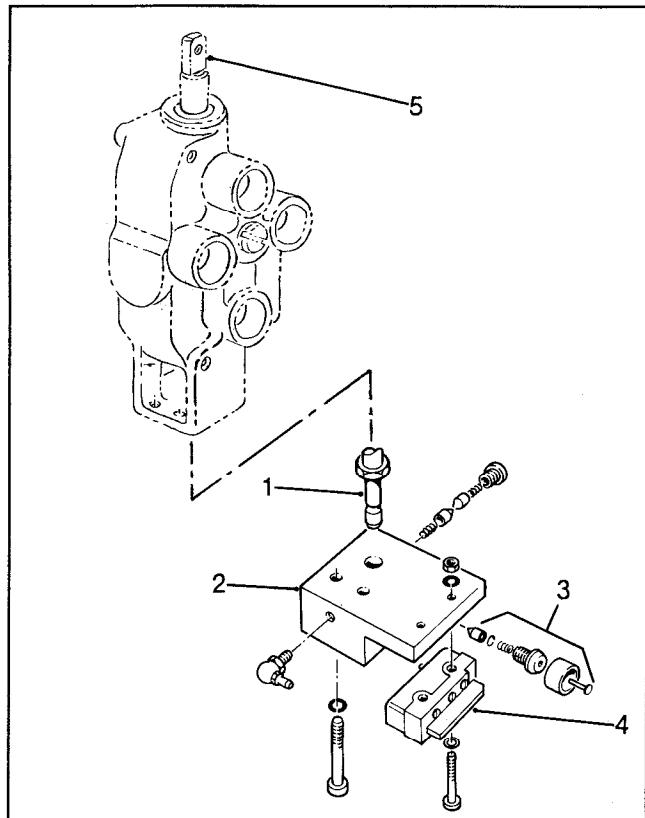

Figure 2
3. Apply Loctite 242 to threads of new spool extension and thread into valve spool until it bottoms out (Fig. 2).
4. Pack hole in detent block for spool extension with grease (Mobilith), slip detent block onto spool extension and secure block to bottom of valve body with (2) machine screws and lockwashers (Fig. 2).
6. Mount micro switch to detent block with (2) machine screws, plain washers, lockwashers and nuts (Fig. 2).
10. Mount and secure hydraulic lines and connect link to top of spool end with clevis pin, (2) washers and cotter pin (Fig. 2).